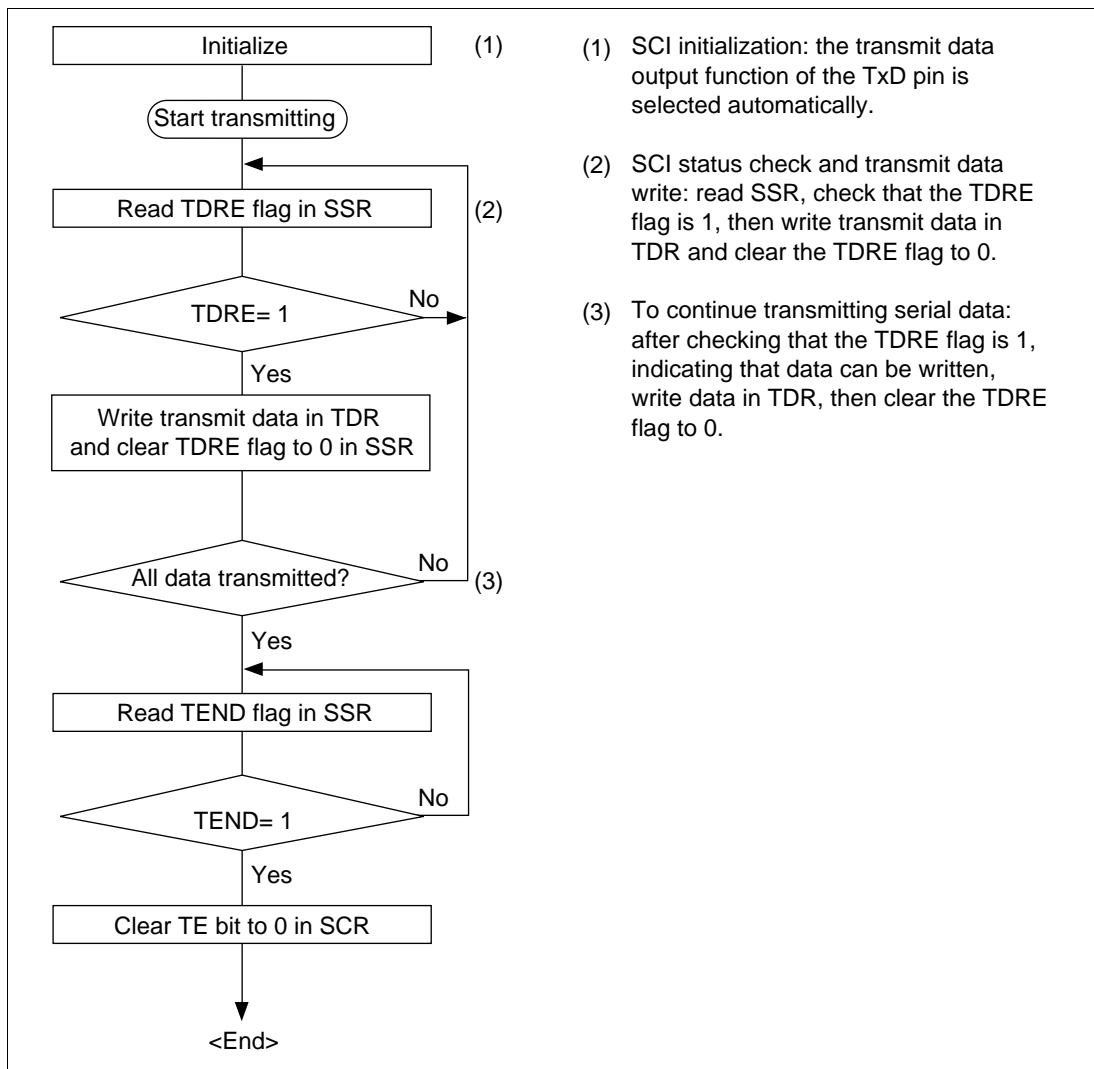

Figure 12.16 Sample Flowchart for Serial Transmitting
- Transmitting Serial Data (Synchronous Mode): Figure 12.16 shows a sample flowchart for transmitting serial data and indicates the procedure to follow.